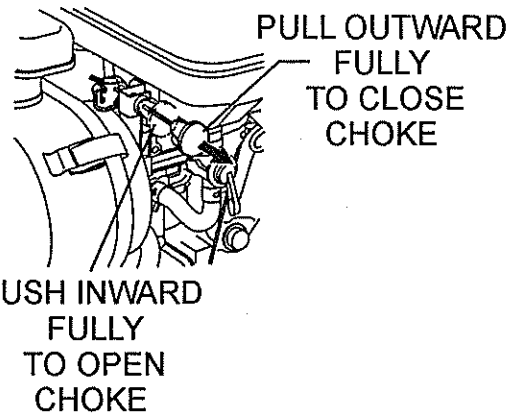

Figure 13. Engine Choke Lever (Closed)
3. Place the **choke lever** (Figure 13) in the "**CLOSED**" position if starting a **cold** engine, if starting a **warm engine** or the **temperature is warm**, place the **choke lever** in the "**OPEN**" position
7. If the engine is running properly, slowly return (push inward) the choke lever (Figure 13) to the "**OPEN**" position. If the engine has not started repeat steps 1 through 6.